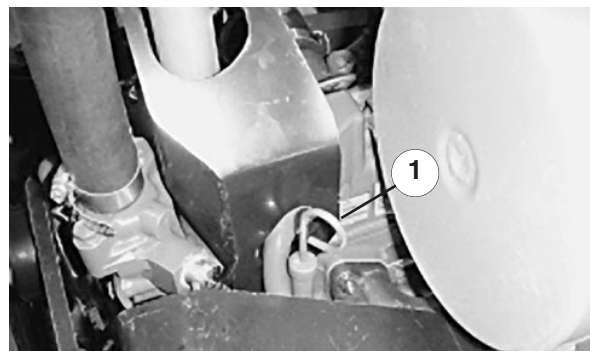

Figure 3
2. Remove the dipstick (Fig. 3), wipe it clean and reinsert it. Remove the dipstick and check the oil level. The oil level should be to the FULL mark on the dipstick